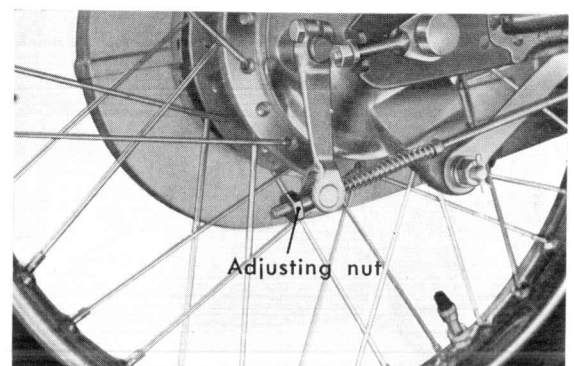

Figure 6-38. Adjusting rear brake
- b. Adjustment is made by the adjusting nut. (Fig. 6-38)